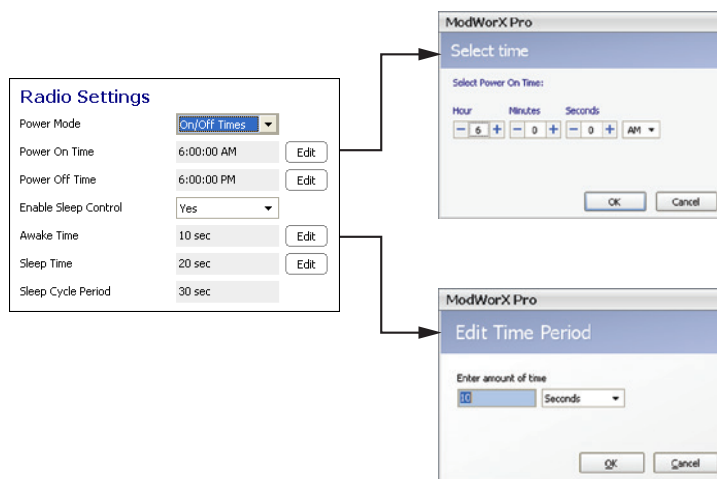

Figure 3.12
- a. Click the **Edit** button next to the Power On Time field and enter the time of day when power is to be supplied to the radio, using the “plus” and “minus” buttons shown in Figure 3.12, page 39. Click **OK**.
- a. Click the **Edit** button next to the Awake Time field and enter the period of time that the radio is to be awake during each sleep cycle period using the Edit Time Period dialog shown in Figure 3.12, page 39. Click **OK**.